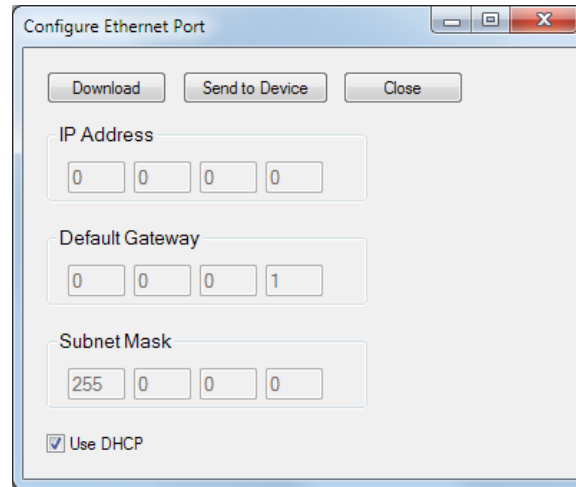

Figure 46-3. Configure Ethernet Port
5. Select Configure, Ethernet from the Communication pull-down menu. If the BE1-11i is connected properly, the Configure Ethernet Port screen shown in Figure 46-3 will appear.